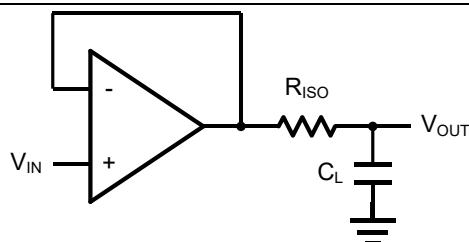
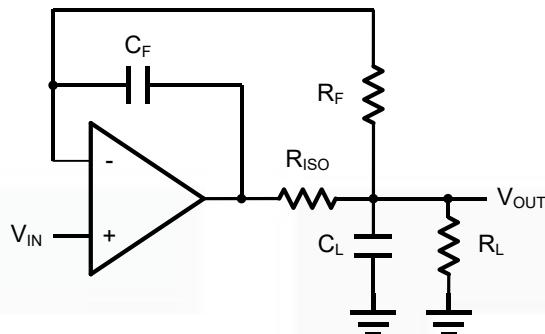

Figure 2 Indirectly Driving a Capacitive Load Using Isolation Resistor
Figure 3. Indirectly Driving a Capacitive Load with DC Accuracy
The GS6012B/6014B is optimized for bandwidth and speed, not for driving capacitive loads. Output capacitance will create a pole in the amplifier's feedback path, leading to excessive peaking and potential oscillation. If dealing with load capacitance is a requirement of the application, the two strategies to consider are (1) using a small resistor in series with the amplifier's output and the load capacitance and (2) reducing the bandwidth of the amplifier's feedback loop by increasing the overall noise gain. Figure 2 shows a unity gain follower using the series resistor strategy. The resistor isolates the output from the capacitance and, more importantly, creates a zero in the feedback path that compensates for the pole created by the output capacitance.
The circuit in Figure 3 is an improvement to the one in Figure 2. R_F provides the DC accuracy by feed-forward the V_{IN} to R_L . C_F and R_{ISO} serve to counteract the loss of phase margin by feeding the high frequency component of the output signal back to the amplifier's inverting input, thereby preserving the phase margin in the overall feedback loop. Capacitive drive can be increased by increasing the value of C_F . This in turn will slow down the pulse response.